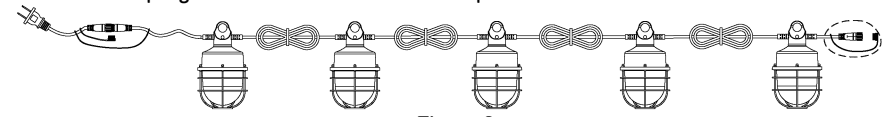
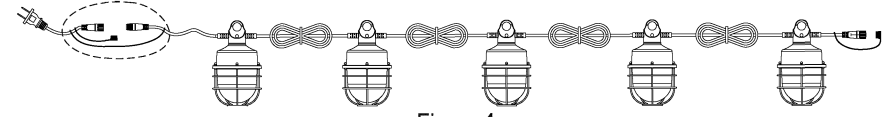

Figure 3
Figure 4
1. Open the protective cover of the waterproof connector at the end of the fixture (Figure 3), and loosen the tightening nut of the fixture (Figure 4);
3. Hook the ring and fix the hook to the wall or object (Note: make sure the wall or object is strong enough) (Figure 3);